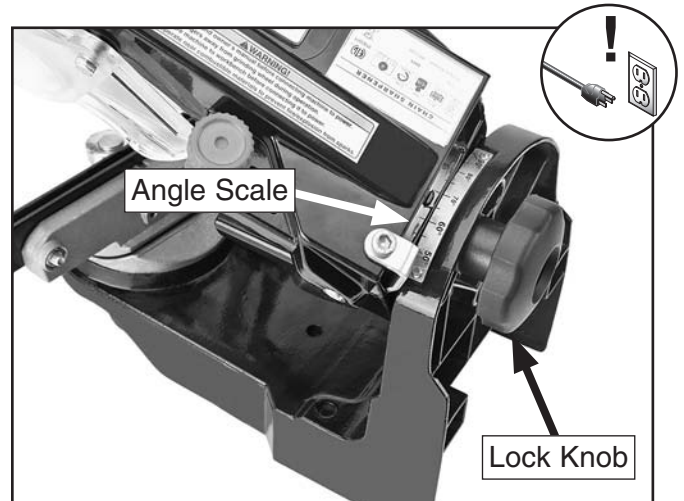

Figure 27. Swing arm angle scale and lock knob.
2. Loosen the swing arm lock knob (see **Figure 27**).